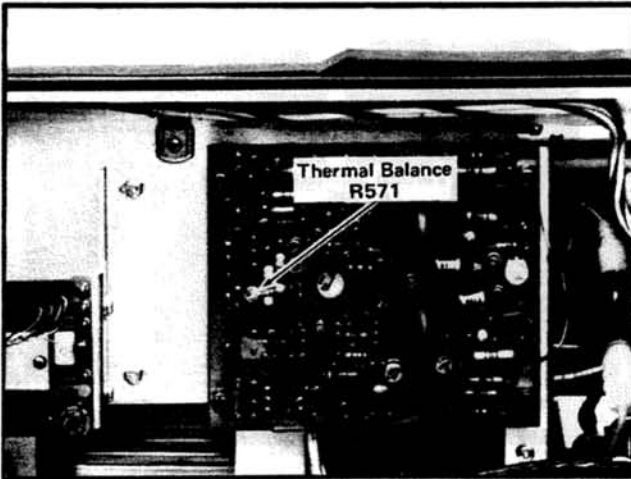

Fig. 5-13. Location of Horizontal Amplifier Thermal Balance adjustment R571.
l. ADJUST—Thermal Balance adjustment R571 (see Fig. 5-13) for minimum movement of the readout characters (if available) and the displayed time markers.
q. ADJUST—Compromise the setting of the Thermal Balance adjustment R571 (see Fig. 5-13) as set in step l to provide minimum horizontal movement of the readout characters and the displayed time markers.
13. Check/Adjust Horizontal Amplifier Centering ①